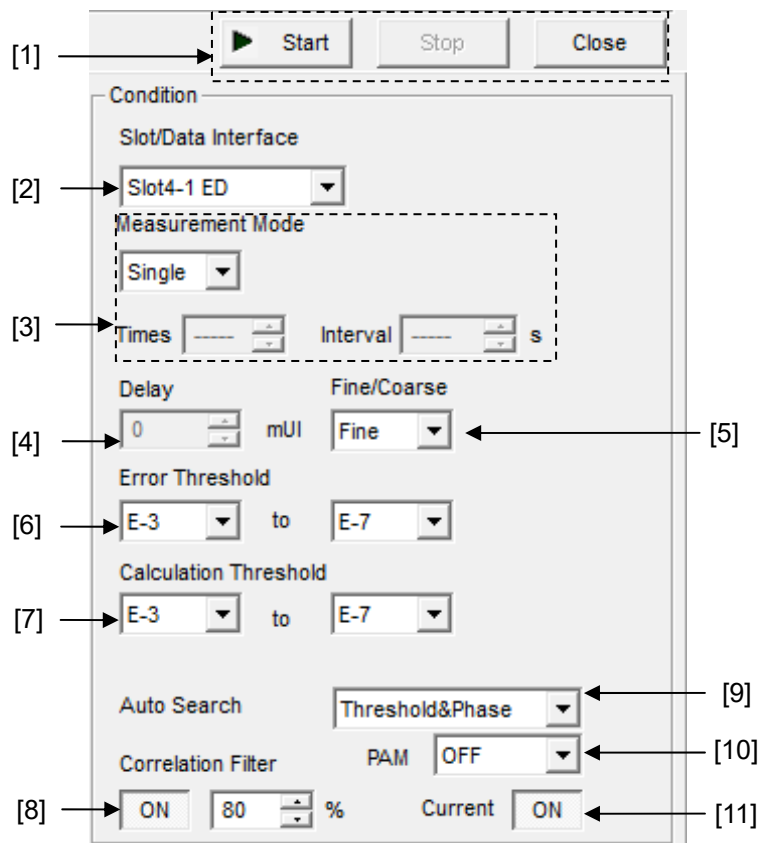

Figure 5.13.1-3 Measurement control area
- [8] Specify whether to show the Max and Step value display, indicated by [7] in Figure 5.13.1-2